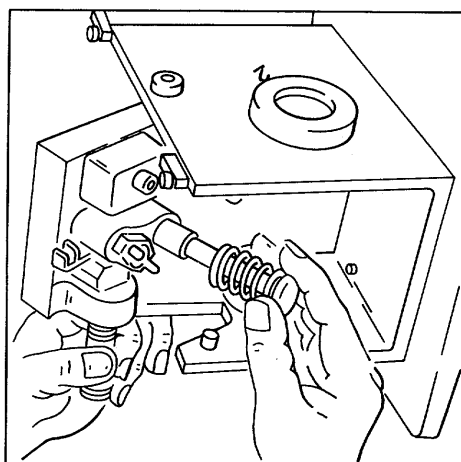

Figure 24. Removing or Installing Plunger Follower, Plunger and Spring.
3. Refer to Fig. 24 and remove the plunger follower, plunger, and spring as an assembly.